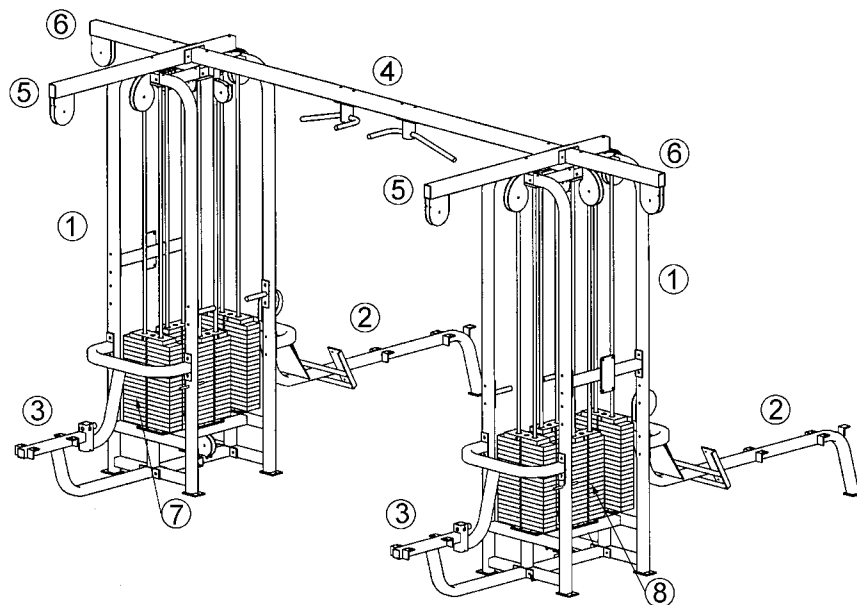
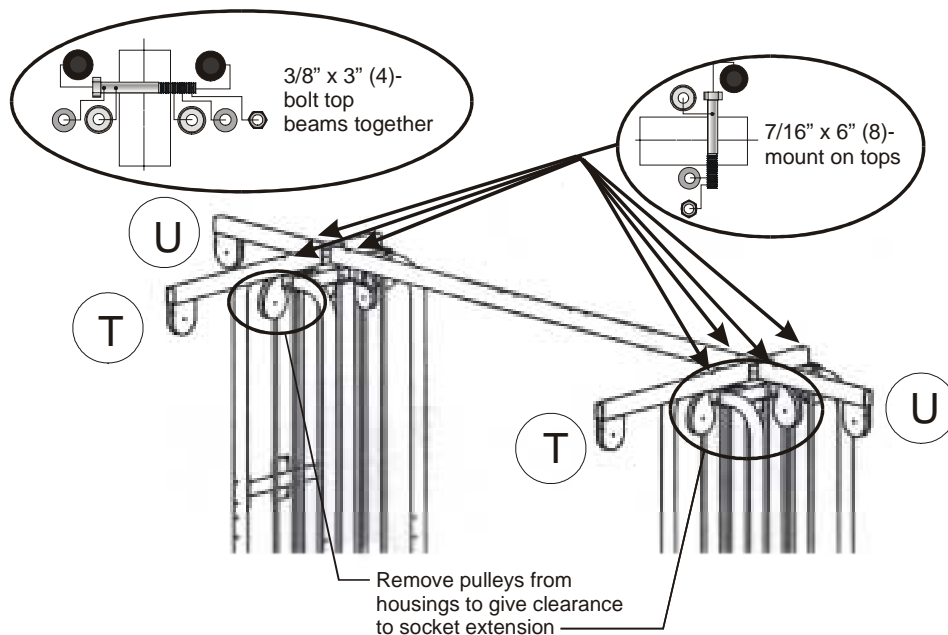

Figure 2. SM80 main components (seats and cables removed for clarity).
Figure 7. Bolt on the connecting beam, lat tops, tricep tops.
Figure 2 shows an assembled SM80.
3. **Bolt on the connecting beam** (part 4 from Figure 2) using a 5/8" socket with extension and combination wrench, to the cubes using two of the large 7/16" x 6" bolts, 7/16" washers, and 7/16" nuts, end cap washers and end caps. Figure 7 shows the connected cubes.
4. **Mount the 56" lat tops** (part T) to the cells using a 5/8" socket and combination wrench by inserting two of the large 7/16" by 6" bolts using the hardware configuration shown. **Mount the 29" tricep tops** (part U) to the frame and connecting beam (See Figure 7). Use the hardware configuration shown. You will need to remove the pulleys from the teardrop pulley assemblies to gain clearance for the socket wrench extension. Leave the pulleys out of the housings until the cables have been installed.
The part shown in Hardware Figure 2 is the 9/16" cable jam nut that's used to secure the cables to the weight stacks.
Hardware Figure 2. Cable jam nut.